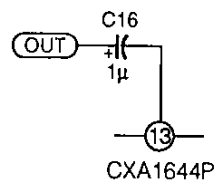

Fig.1
- Fig. 1 shows the polarity of C16 when the DC operating point of the OUT pin is higher than $V_{CC}/2$ of the CXA1644P.
- When the DC operating point of the OUT pin is equal to $V_{CC}/2$ of the CXA1644P, either of Figs. 1 and 2 will do.